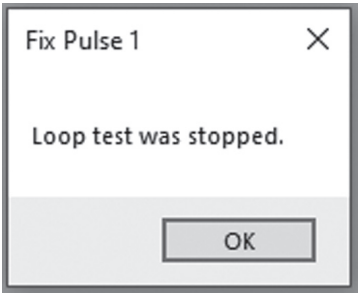

Fig.130
- ⑥ If the output is executed with the number of pulses being specified in "Target," the screen shown in Figure 130 appears after the output is completed. "Actual Output" is the actual number of pulses output. It may differ from "Expected Output" but it is not abnormal.